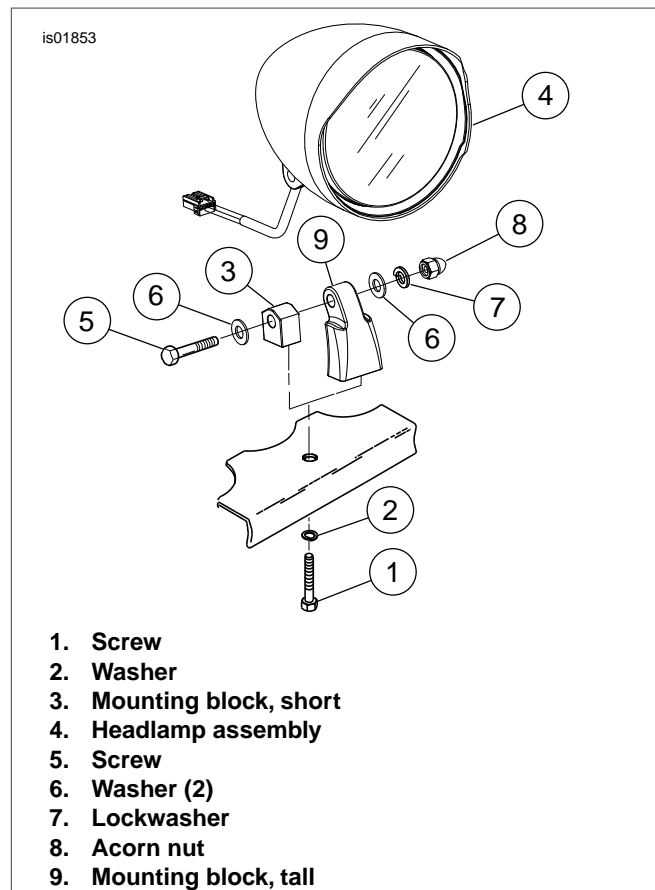

Figure 8. Billet Headlamp Assembly with Short/Tall Mounts
1. *Softail and 1994-2005 FXDWG Models:* See Figure 8. Loosely install vertical adjusting screw (1) from kit and washer (2) previously saved.
- 2000-Later FXSTD Models:* See Figure 8. Loosely install vertical adjusting screw (1) and washer (2) previously saved.
2. Loosely install mounting block (3) and billet headlamp (4) using horizontal adjusting screw (5), washers (6), lock-washer (7), and acorn nut (8).
1. See Table 1 and Figure 8. Loosely install vertical adjusting screw (1) and washer (2) previously saved.
2. Loosely install mounting block (9) and billet headlamp (4) using horizontal adjusting screw (5), washers (6), lock-washer (7), and acorn nut (8).